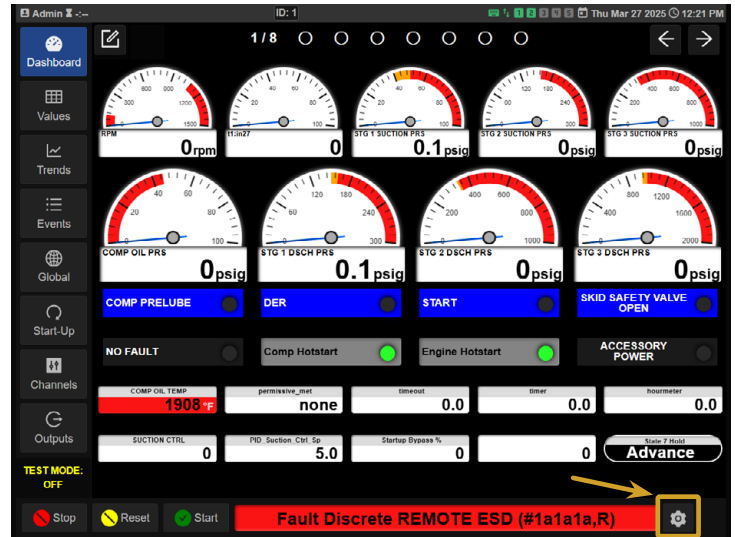

Figure 1
2. Click the gear  icon in the bottom-right corner of the main dashboard page. See *Figure 1*.
5. Once you have established communications with the controller and the main dashboard has loaded, click the gear icon in the bottom-right corner. See Figure 1.
2. Click the gear icon in the bottom-right corner of the main dashboard. See Figure 1.